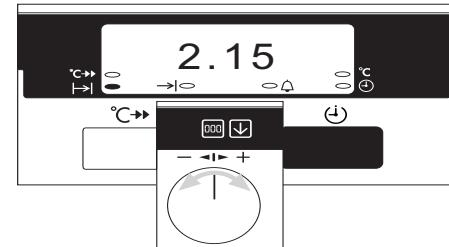

Fig.7
- iv) To set the length of cooking time, press the Time Selector button until the 'Cook Time' indicator neon is illuminated (\rightarrow). Turn the main oven increase/decrease selector ($+/$ -) until the required length of cooking time is displayed, e.g. 2 hrs 15 mins as Fig. 7.